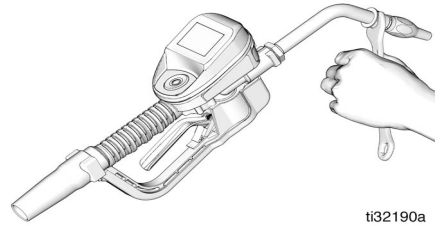

FIG. 10
2. With an open-end adjustable wrench on the flats of the nozzle bushing, tighten firmly (FIG. 10).
- To prevent nozzle damage, *only* tighten nozzle with wrench on flats of the nozzle bushing as shown in FIG. 10.